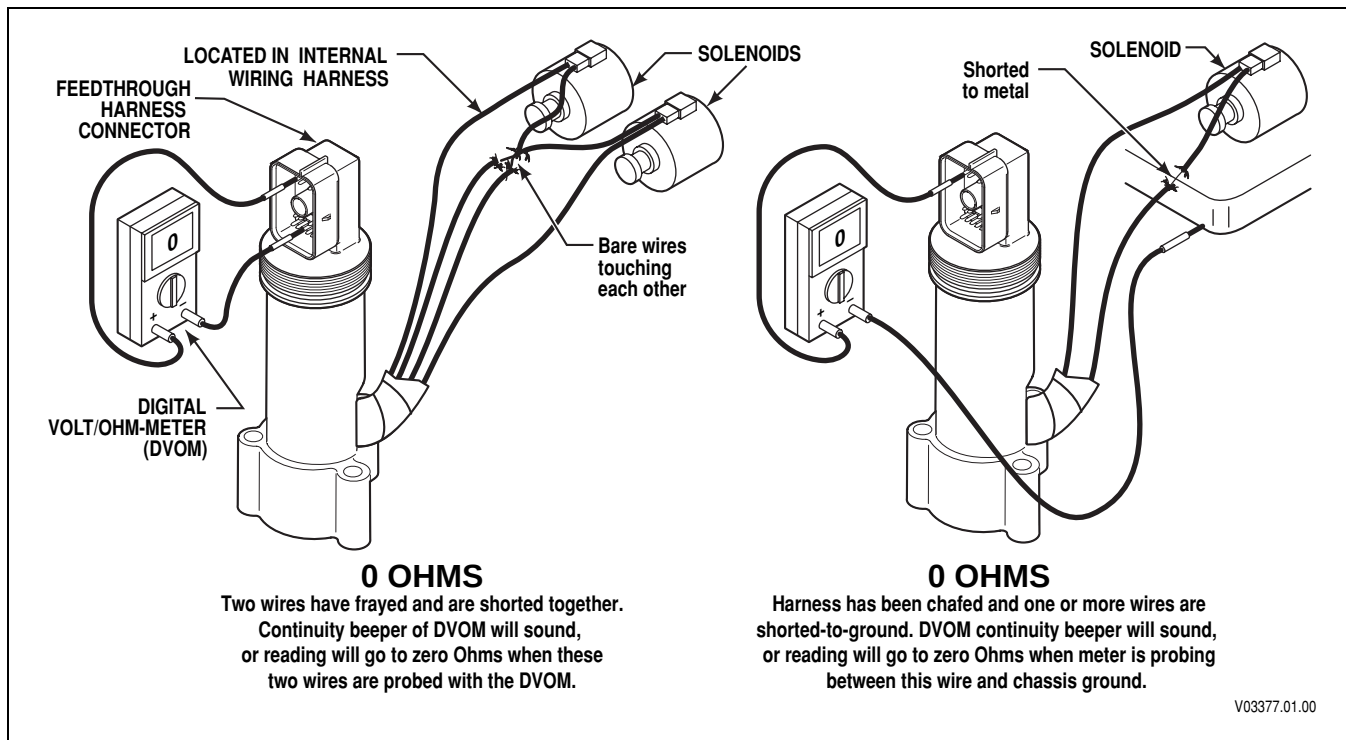

Figure 4-4. Short Between Wires and to Ground
- b. If the resistance test is good, test the harness for shorts between wires and to ground by performing the following (Figure 4-4):
- (1) At the transmission connector, touch one probe of the DVOM to one wire of the circuit being tested and touch the other probe to each terminal in the connector and to chassis ground and the transmission main housing. Do this for both wires in the circuit being tested.
- (2) If the DVOM shows zero to low resistance, or the continuity beeper sounds, there is a short between the two points being probed, wire-to-wire or wire-to-ground. An indication of a short may be caused by a splice to the wire being tested. Review the wiring diagram in Appendix J for splice locations. If the short is not a splice, then isolate and repair the short.